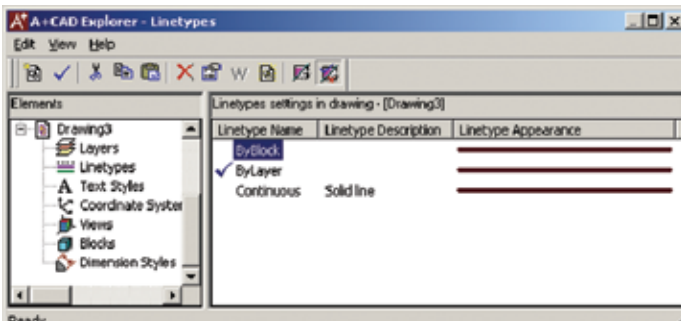

Figure 9.1
- The A+CAD Explorer dialog box displays. See Figure 9.1.